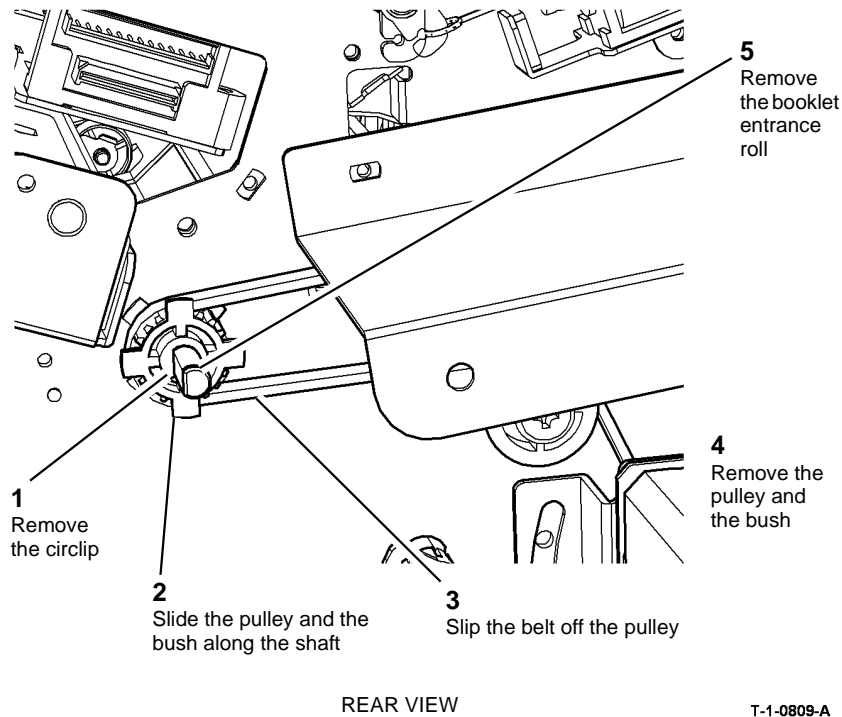

Figure 2 Booklet entrance roll removal
3. **Figure 2.** At the rear of the HVF, remove the booklet entrance roll.